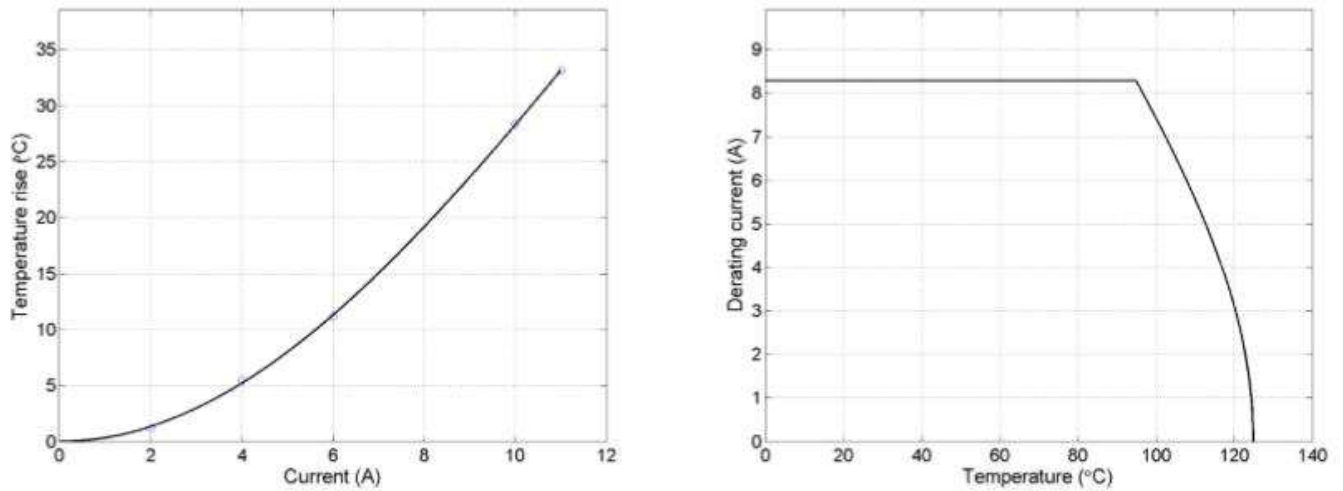

Figure 6- typical derating curve of 2238174-3 AWG24#
2.6 Refer to figure 6 for the curve of 2238174-3 (Faston) with AWG24#.